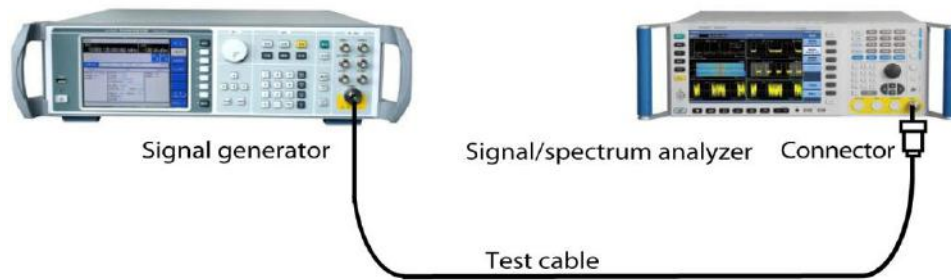

Fig 4.61 Connection Settings of Channel Power Measurement
**Step 2. Connect the radio frequency output port of the signal source to that of the analyzer. As shown in Fig. 4.61:**